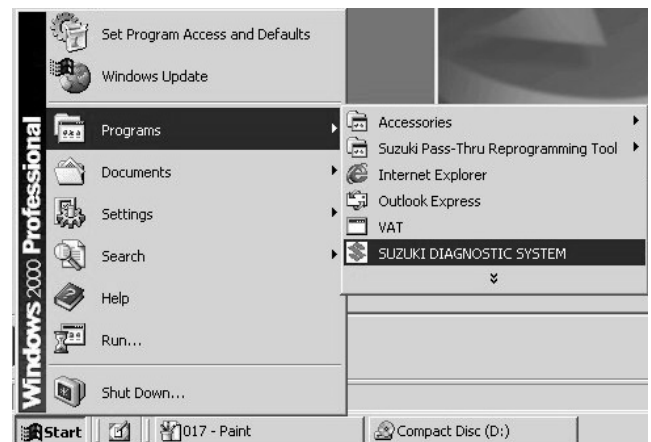

Fig.40
5. To start the SDS program, click "SUZUKI DIAGNOSTIC SYSTEM". (Fig.40)